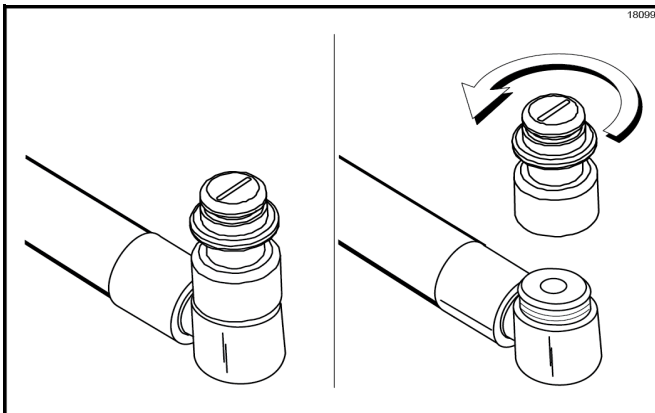

Figure-28
9. With the pail still beneath the door, remove the syrup nose fitting from the syrup line fitting by turning it counterclockwise. Hold the syrup fittings in an up position to minimize syrup loss. (See Figure-28.)